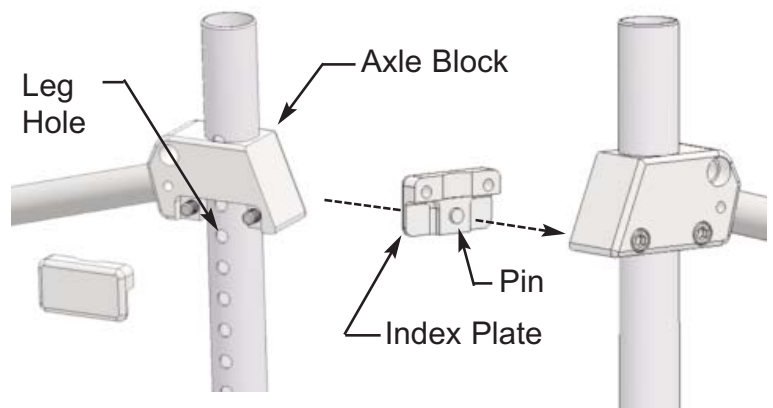

Figure 20
- 2) Loosen the bolts holding the indexing plates to the axle blocks using the included T-Handle allen wrench and move the entire assembly up or down as required to match the height of the two front caster wheels (Refer to Figure 20).
- 3) Once you have the axle block assemblies in place, make sure that the pins located on the indexing plates are fully seated in the outer leg holes (Refer to Figure 20).